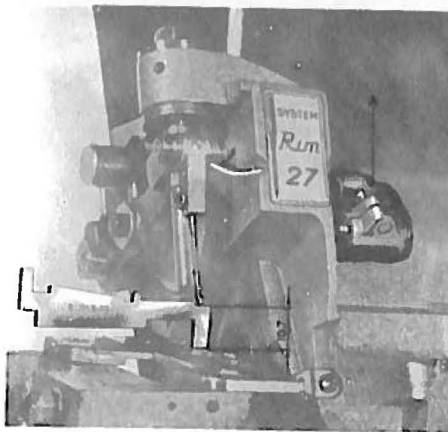

fig. 3
3) SETTING HEIGHT OF NEEDLE BAR (fig. 3)
- if adjustment is necessary, loosen screw A (fig.3) and move needle bar clamp up or down using needle gauge N. S 1552.00 as indicated in fig. 3 to obtain the correct setting. Retighten screw A.